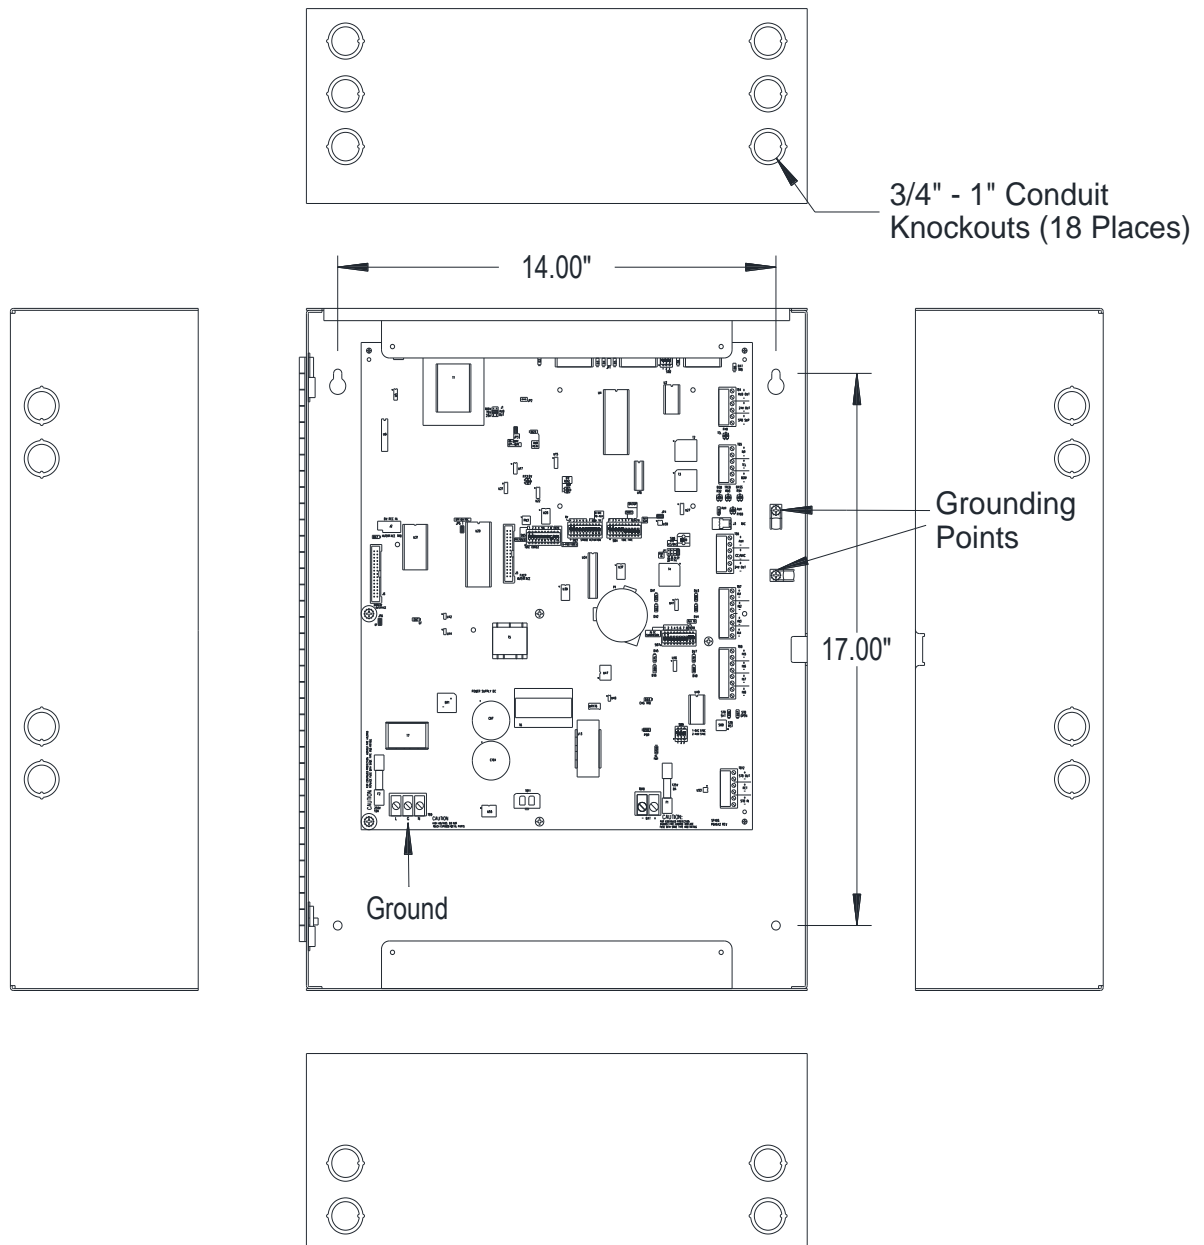

Figure 11 SP40S Panel Mounting and Grounding/Conduit Locations
1. See Figure 11 for the panel mounting hole layout.
NOTE: Shielded wire is not required on any output circuits. If shielded wire is used, connect the shields to the grounding points as shown in Figure 11.